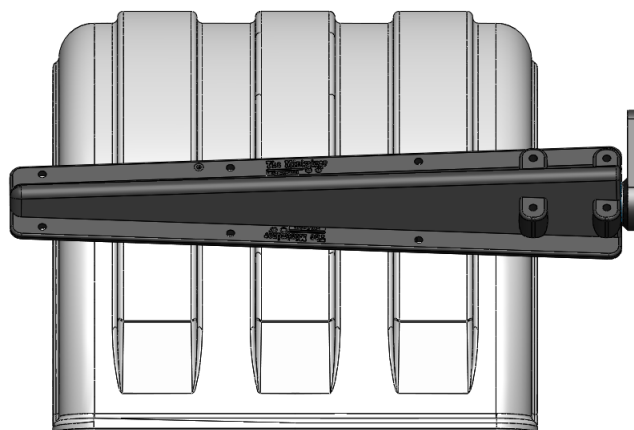

Figure 1 – Alignment of MIN1600 Series Fender and Minimizer Poly Bracket Arm
- In some applications the poly bracket arm shown in Figure 1 will be longer than necessary to align with the MIN1600 or MIN1900 fenders. If the bracket is too long to align it may be shortened to better suit the width of the fender. Again, keep in mind that bracket alignment is dependent on the width of the truck frame and track width of the axle. Therefore, the bracket modifications in this document are not applicable for every installation.
- 1) With the fenders and brackets exactly where they will be mounted on the truck frame. Confirm if there is a need to trim the bracket poly bracket arm. Also, check to see if any of the existing mounting holes in the bracket line up with the rib of the fender. In most cases the bracket will align with the fender as shown in Figure 1 below.